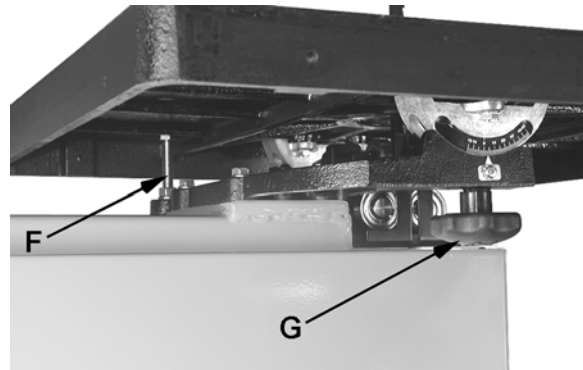

Figure 14
2. Loosen the lock knobs (G, Fig. 14).
**Note:** Table stop bolt (F, Fig. 14) must be removed to tilt table to the left.